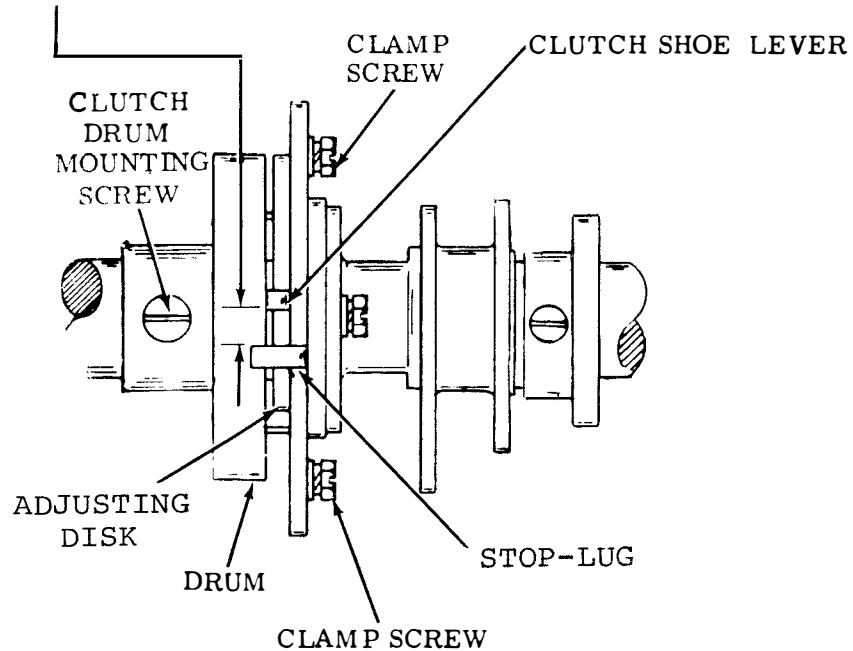

Figure 6-209. Selector Clutch Shoe Lever, Right Side View
(1) Clutch Shoe Lever. Adjust as follows:
- (a) Refer to Figure 6-209.